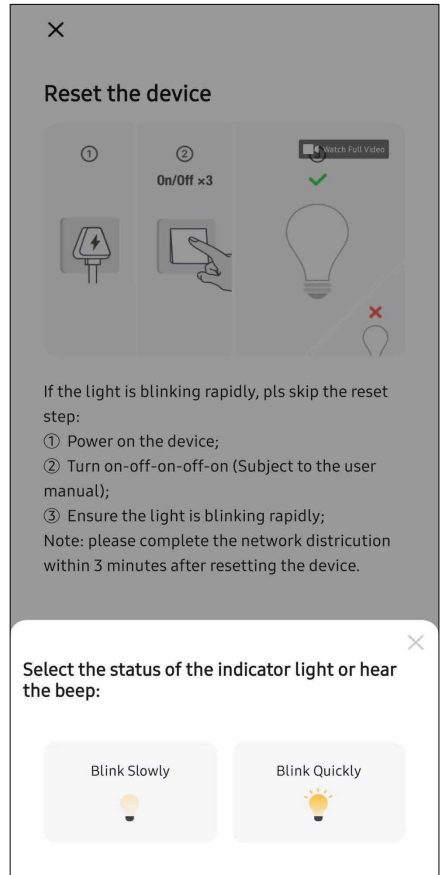

Figure 17
- 7 Select 'Blink quickly'. (Fig.17)